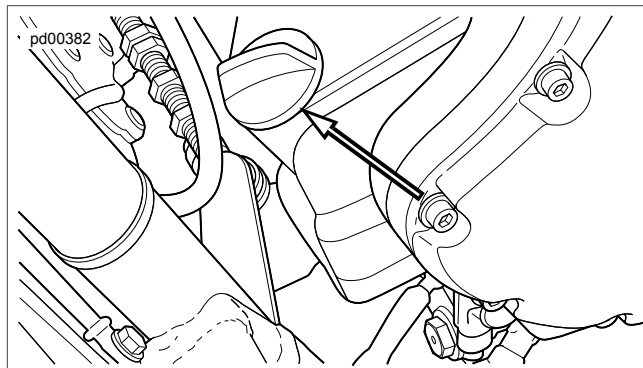
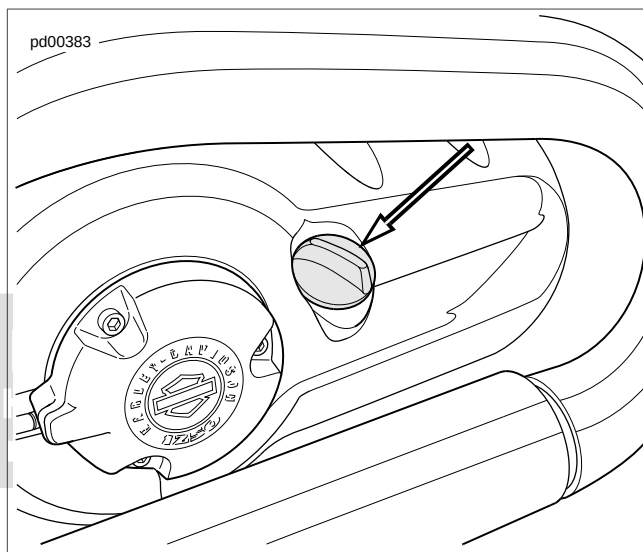

Figure 1-1. Dipstick Filler Cap
Figure 1-2. Dipstick Filler Cap (VRSCF only)
2. See Figure 1-1 or Figure 1-2. Remove the oil filler cap (with attached dipstick) by turning the filler cap counter-clockwise. Remove the filler cap and dipstick and wipe the dipstick clean.
3. See Figure 1-1 or Figure 1-2. Remove filler cap (with attached dipstick) located at front of engine on left side. Remove filler cap and dipstick and wipe dipstick clean.
- See Figure 1-1. Remove the oil filler plug/dipstick on left side.
- See Figure 1-1. Select the grade of oil for the lowest temperature expected before next oil change. Refer to Table 1-7.